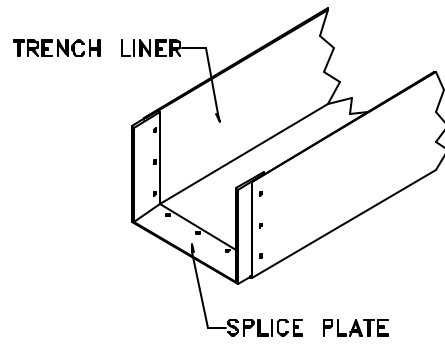

Figure 16
- STEP 2.** Select a section of the trench liner and place it into its installed position (see Figure 16). Ensure that the liner is level, even, and properly aligned.